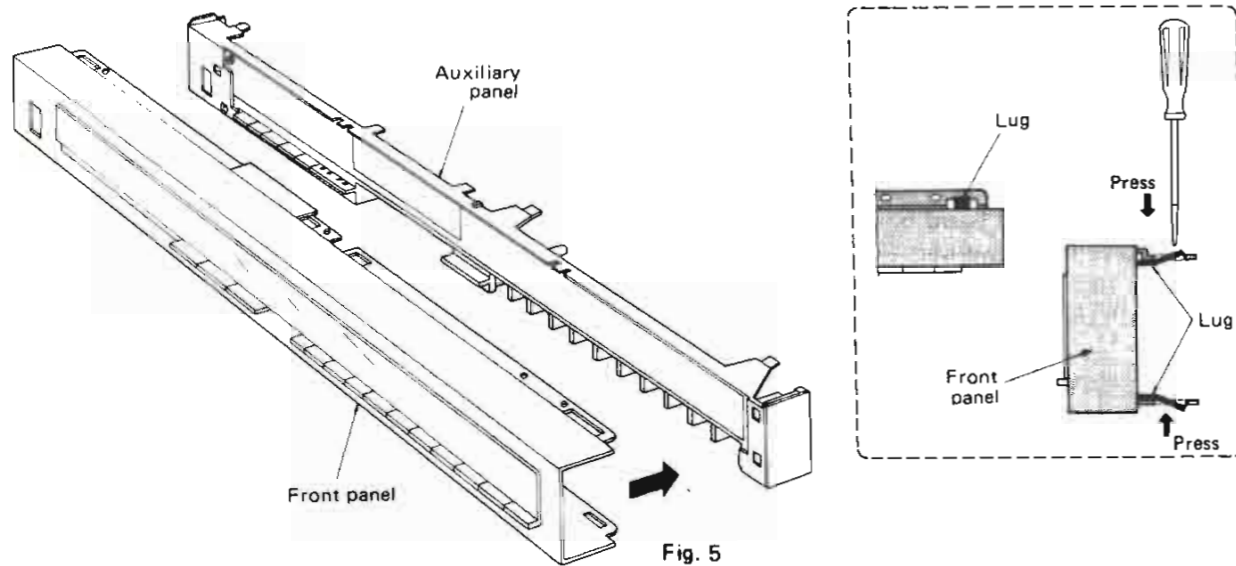

Fig. 5
5. Disengage the 6 Lugs of auxiliary panel from the front panel by using a screwdriver to remove the auxiliary panel. (See Fig. 5)